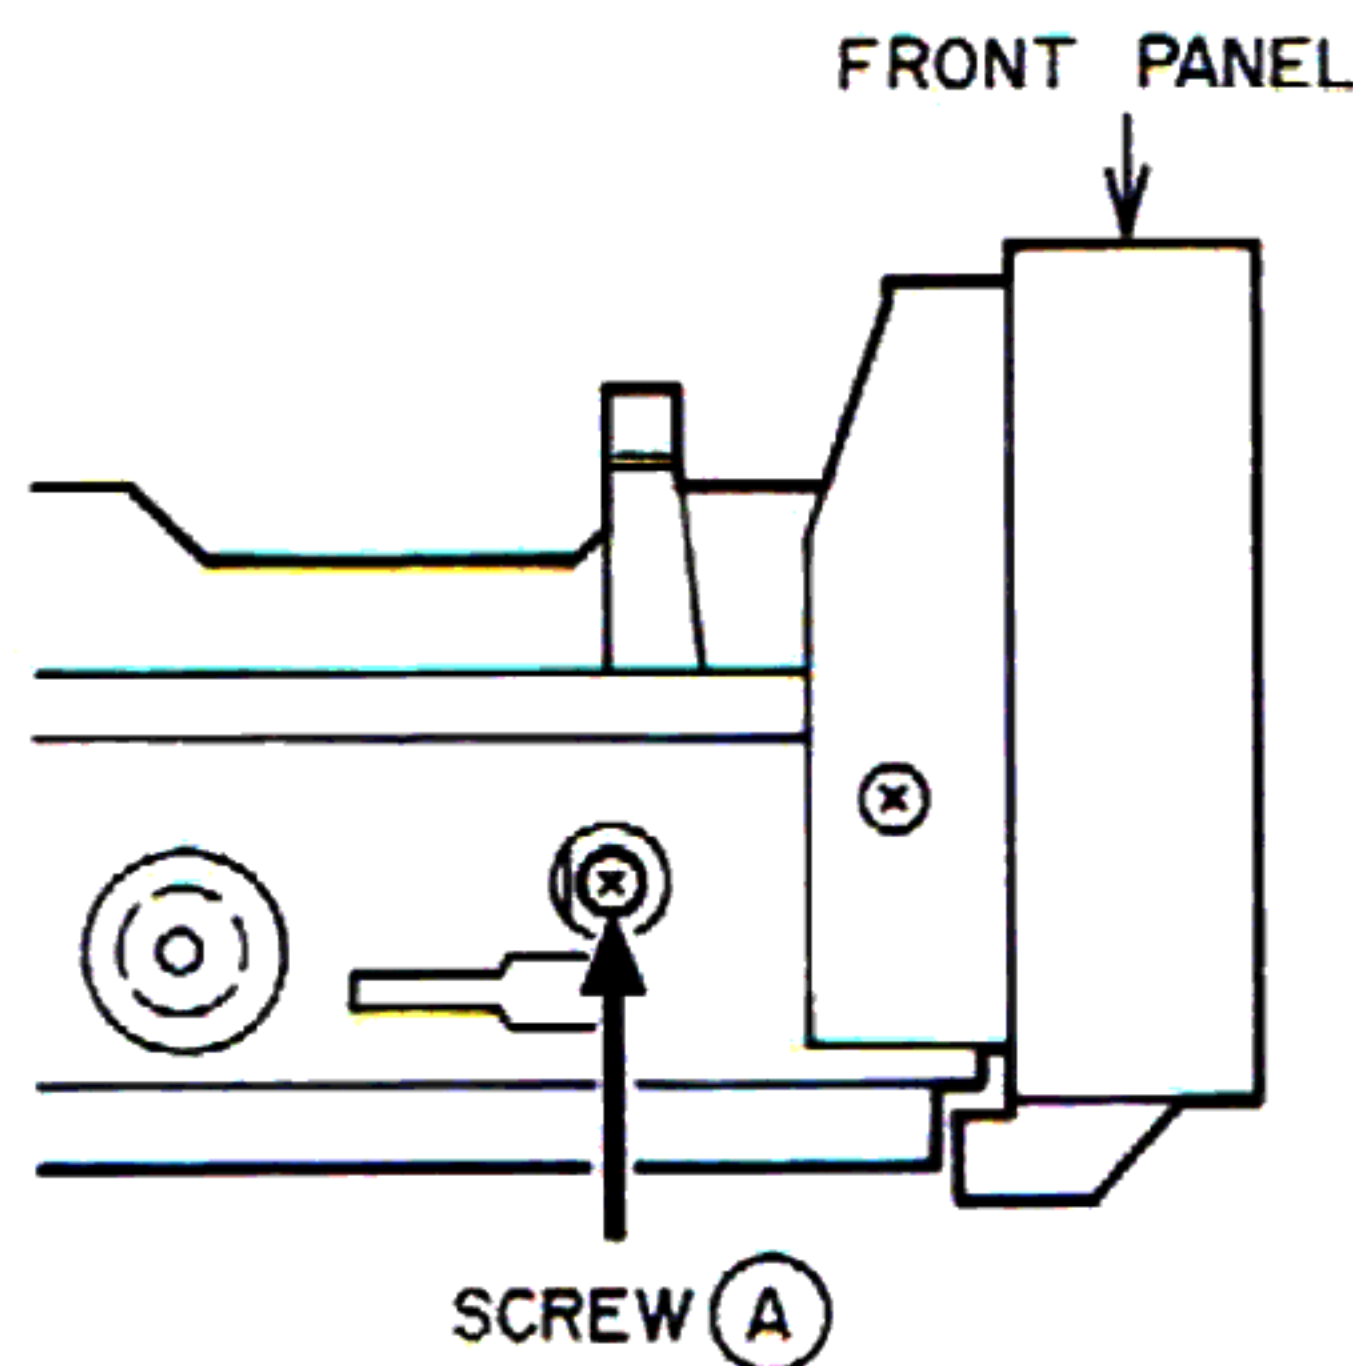

Fig. 6-2
- 4) Turn the adjustment screw (A) by degrees (Refer to Fig. 6-2) as waveform of TP7 will become maximum.